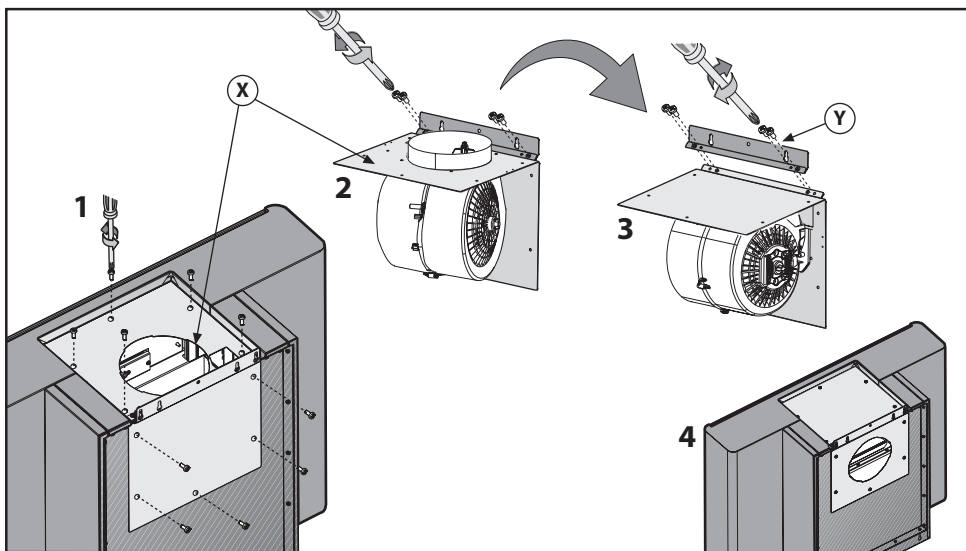

Fig.12
- **Warning: the cooker hood may be installed with the air exhaust outlet at the rear, by removing bracket X with the motor and rotating it, as illustrated in Fig.12.**
The wall mounting bracket Y should also be removed and fixed as illustrated in Fig.12, using the same screws.